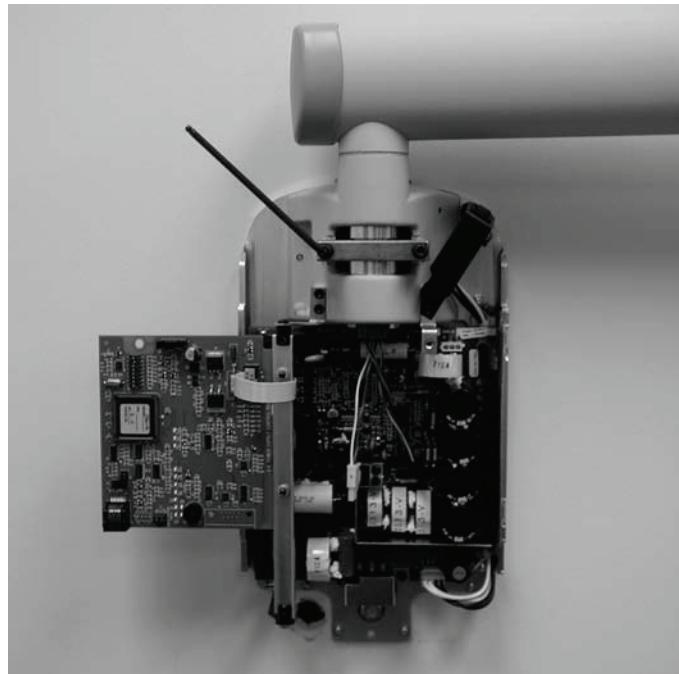

Figure 71
5. Using a 4 mm Allen wrench, as shown in Figure 71, tighten the screws equally to apply adequate braking to the pivot post so that Horizontal Arm begins to move after the Articulating Arm.